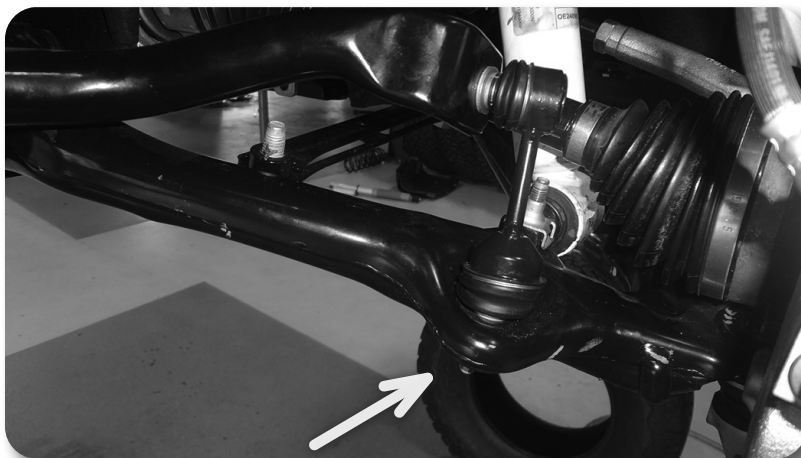

Figure 7
11. Remove the sway bar links nut from the lower control arms Fig. 7. Save the hardware.